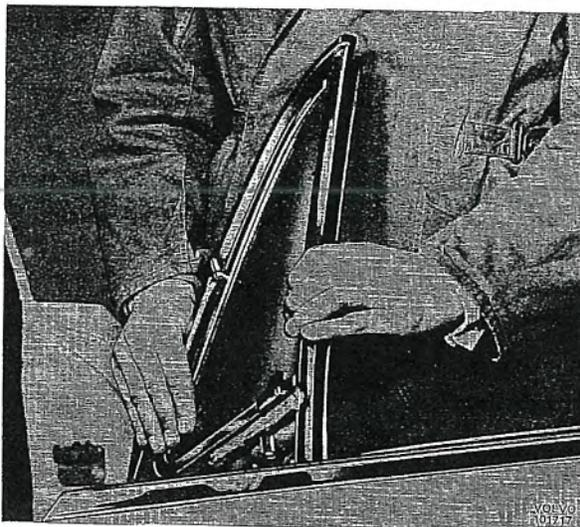

Fig. 8-24. Taking out ventilation window with frame
5. Wind down the winding window to the bottom position. Then pull the ventilation window straight up and turn it a half turn so that the attachment on the lower part of the guide rail can be taken out of the door (Fig. 8-24).